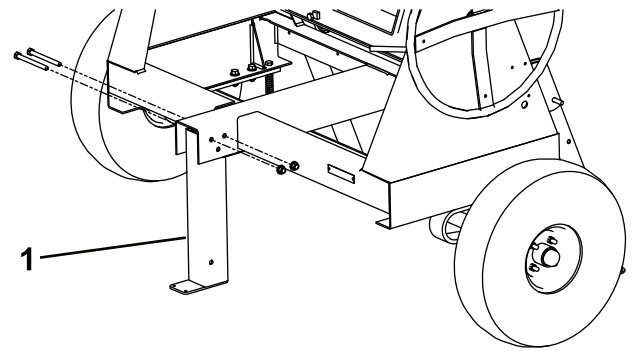

Figure 6
3. Remove the 2 nuts and bolts that secure the front stabilizer leg to the frame (Figure 6), and remove the front stabilizer leg.